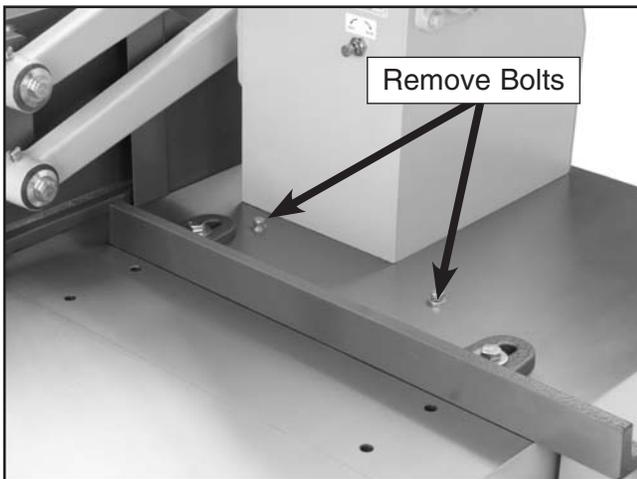

Figure 20. Bolts to be removed for safety guard.
1. Remove the bolts shown in **Figures 20 & 21**.